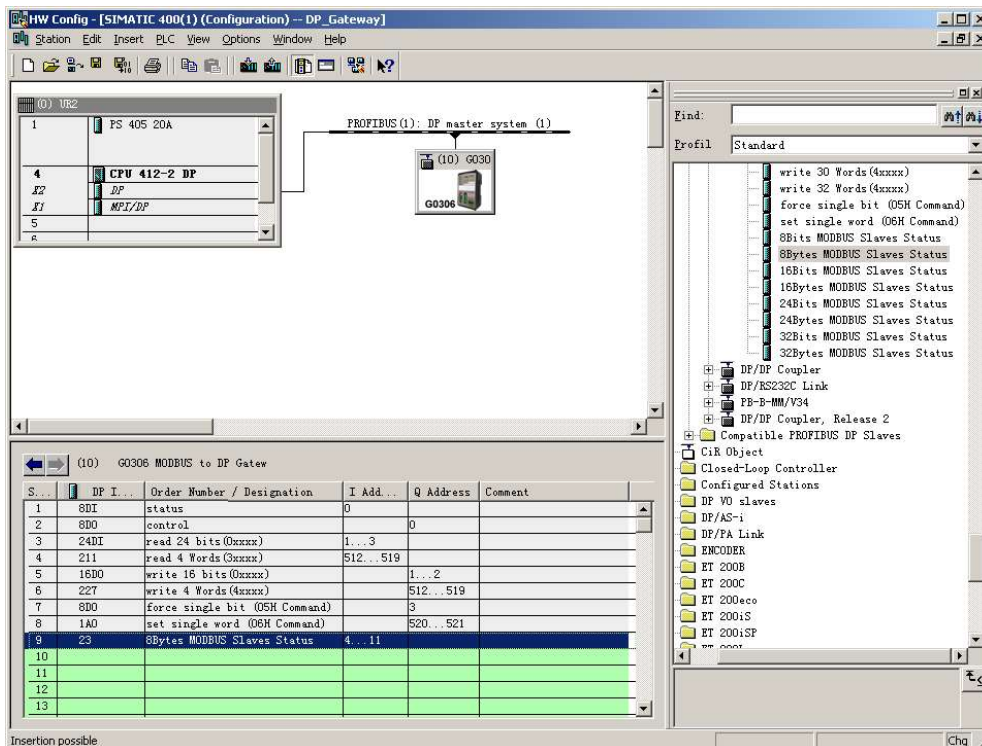

Figure 38 Add "8Bytes MODBUS Slaves Status" module
b) Add "8Bytes MODBUS Slaves Status" module, as shown in Figure 38: